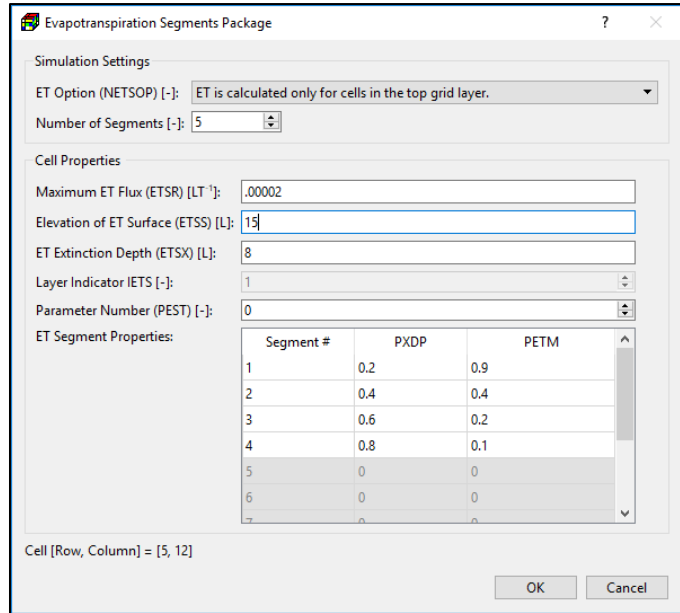

Figure 52. The Evapotranspiration Segments Package dialog box
1. **All input methods:** Figure 52 shows the dialog box for specifying cell, vertex, or polygon properties.